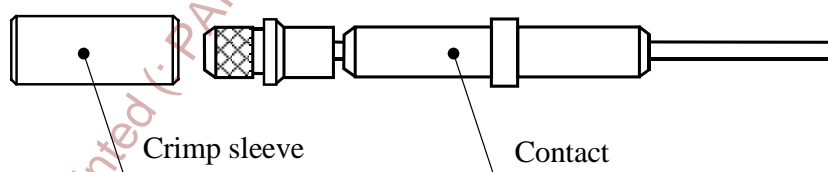

Figure 1
- 1.5 The contact (JN1130C), consists of the contact itself and a crimp sleeve, see Figure 1.